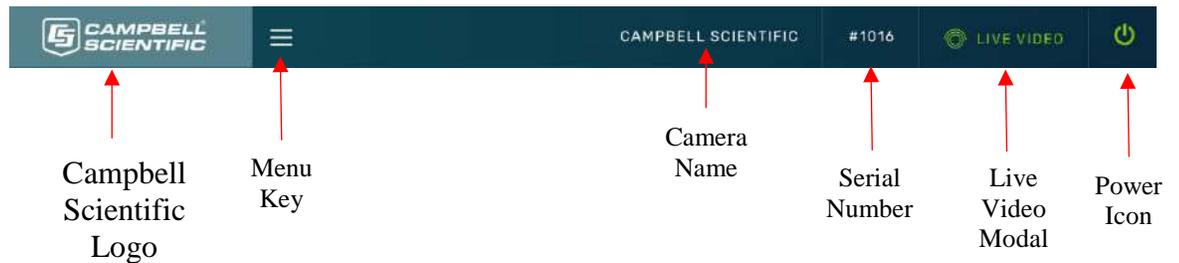

Figure 13-3 Top Navigation Bar – Desktop view
- The top of every page includes a top navigation bar (Figure 13-3), which includes the *Camera Name* set in Section 13.9.1 *General*, the camera serial number, a link to the *Live Video* modal (see Section 13.3.1), and the green power icon.
The green power icon (see Figure 13-3 *Top Navigation bar – Desktop View*) on the top right of every page provides a safe power down sequence. If at all possible, the green power icon should be used any time the power needs to be removed from a camera that is actively collecting and storing photos or video. The camera will completely shut down for a period of 10 minutes and ensure the camera memory is not corrupted. Once selected, a notification will pop-up asking the user if they are sure they want to power down the camera, proceed accordingly.